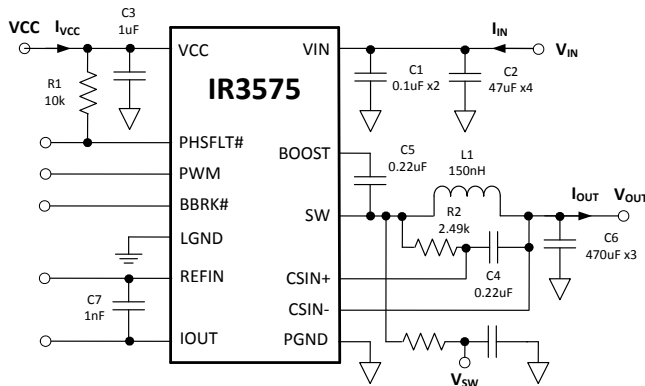

Figure 32: IR3575 Power Loss Measurement
Circuit of Figure 32, $V_{IN}=12V$, $V_{OUT}=1.2V$, $f_{SW} = 400kHz$, $L=150nH$ (0.29mΩ), $V_{CC}=7V$, $T_{AMBIENT} = 25^{\circ}C$, no heat sink, no air flow, 8-layer PCB board of 3.7" (L) x 2.6" (W), no PWM controller loss, no inductor loss, unless specified otherwise.
The single-phase IR3575 efficiency and power loss measurement circuit is shown in Figure 32.